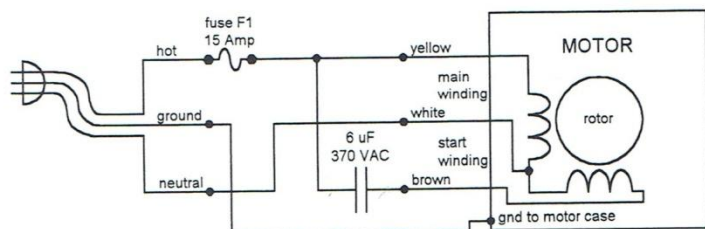

Figure 4.
1. With the AC power cord unplugged, make the connections from the AC power line to the motor as shown in Figure 4. Note that the capacitor is in series with the start winding.